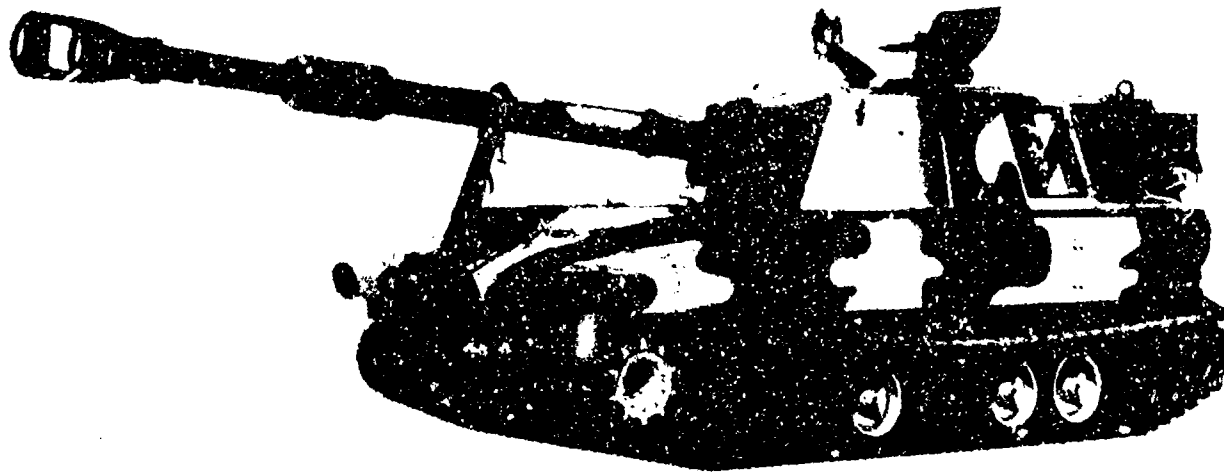

Figure 1-11. 155-mm howitzer M109A2/A3, SP.
d. 155-mm Howitzer, M109A2/A3, SP. The following data pertain to the 155-mm howitzer M109A2/A3, SP (fig 1-11):